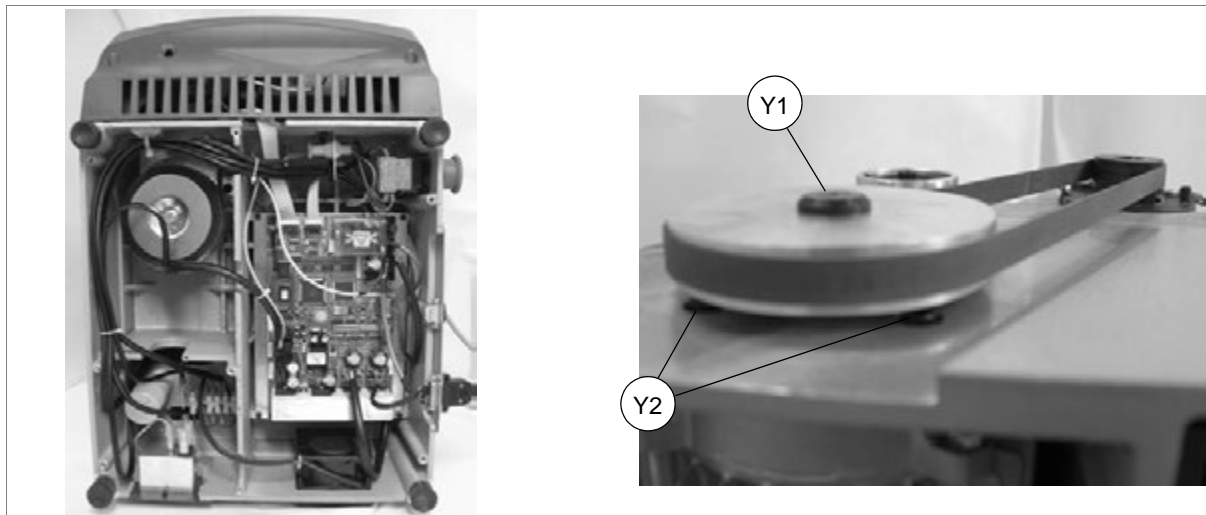

Fig. 89
- i) loosen the screw (Y1) and remove the pulley (fig. 89).
- j) loosen the 4 screws (Y2) fixing the motor and remove (fig. 89).